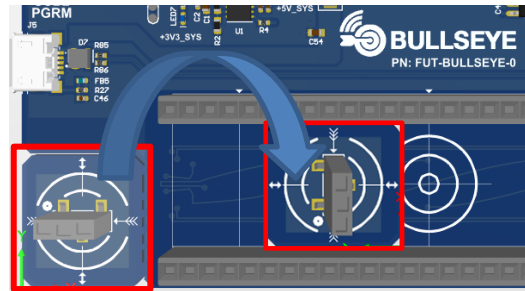

Fig.2 Break Out Actuator Board
- Break-off the small Actuator PCB attached to the lower left corner of the Bullseye board, by twisting up/down with your hand or using cutters. (Fig.2)
- ⇒ Place this small actuator board anywhere in between the two guiderails (J11) & (J12), as shown in Fig 2.